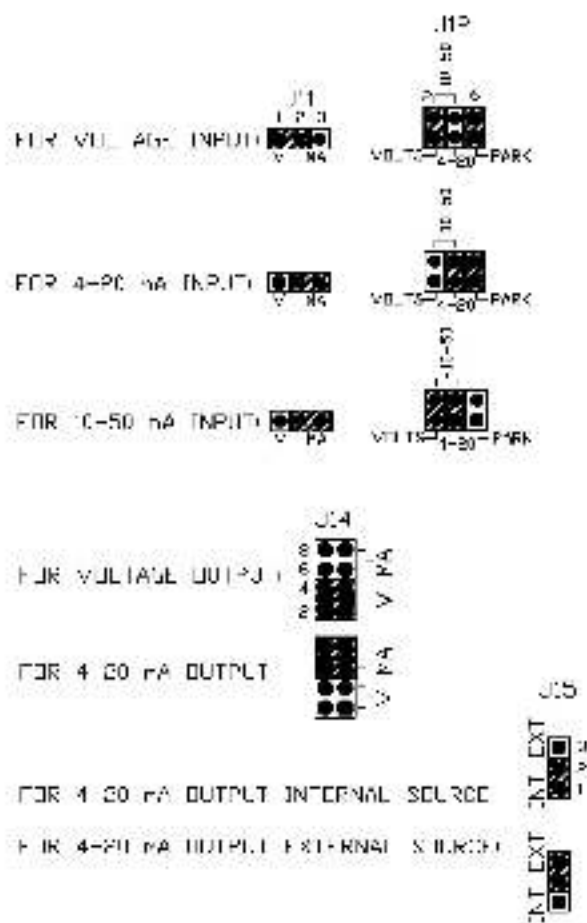

Figure 2 - Jumper Settings
- Step 8. Remove the I/O Expansion board from its anti-static wrapper. Verify that the jumpers are set properly for your application (refer to figure 2). The jumpers can be set as follows: